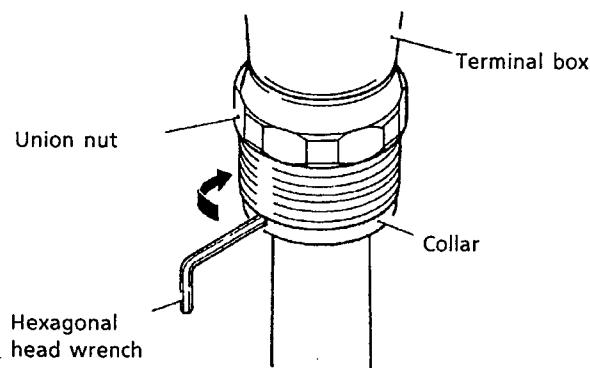

Figure 9.1 How to Remove Electrode Assembly
The electrode assembly of the SC210G low/medium-range conductivity detector is provided with a lead wire, which is connected to the dedicated cable through the terminal box. If the SC210G detector is used, remove the lead wires (4) of the electrode assembly connected to the terminal box. Separate the terminal box from the electrode assembly. The electrode assembly is fixed into the terminal box. Insert a hexagonal head wrench into the two holes ($\text{Ø}3.2\text{ mm}$) on the collar in the neighborhood of the union nut and turn it counterclockwise to remove it (see Figure 9.1).